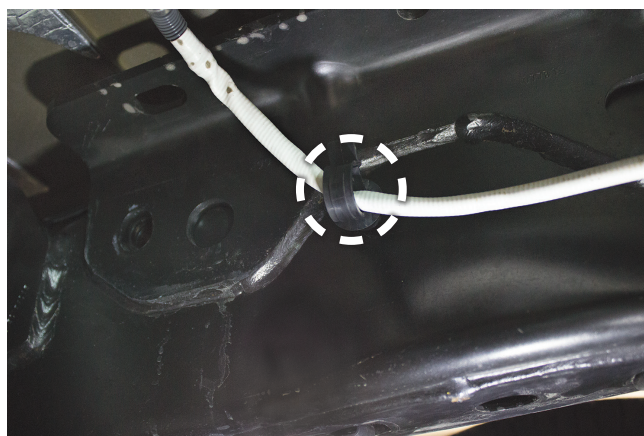

Fig. 29
5. To install the passenger's (right) side upper brace (F), locate the clip (circled in Fig. 29) that holds the wiring harness for the O2 sensor. Remove and discard the clip, as it will no longer be needed.